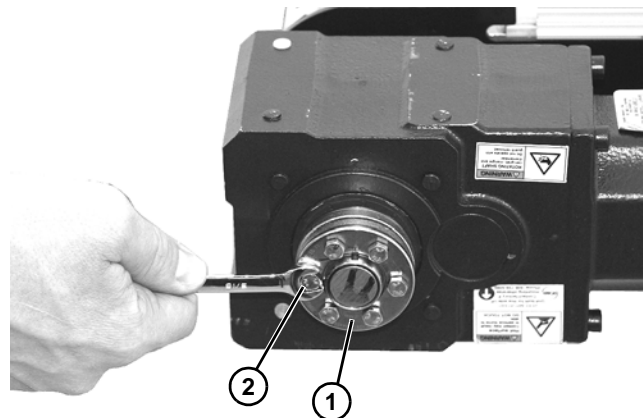

Figure 59
- Remove cover from assembly (**Figure 59, item 1**).
- Loosen six hex head screws (**Figure 59, item 2**) securing assembly onto shaft.